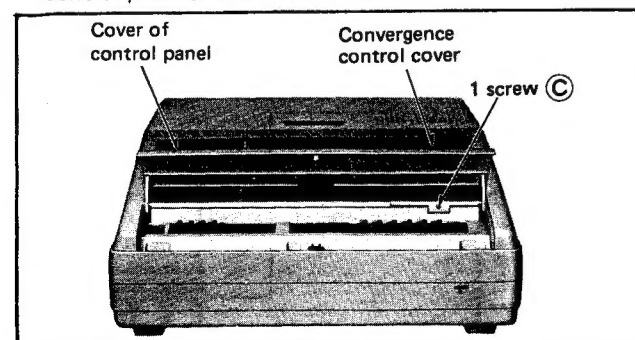

Fig. 4
- 2) Remove a 1 screw (C) in fig. 4.